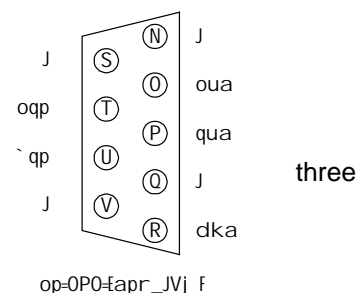

Fig.3
- Connect the RS-232 interface via null modem cable to the PC and check that the jumper is set to RS-232. It's a simple 8N1, 19200 baud, wire connection (Fig.3):